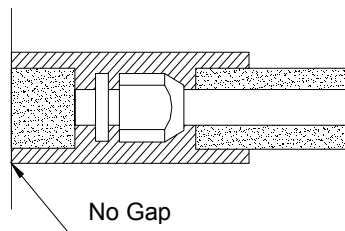

Fig.11
2. The joint connecting to the indoor unit must be wrapped by thermal insulation material. There shall be no gap between the connecting pipe joint and the wall of the indoor unit. Refer to Figure 11.
3. If the communication line between the wire controller and the indoor unit is surface-mounted, use 1# metallic pipe and make matching recess in the wall (refer to Figure 11);